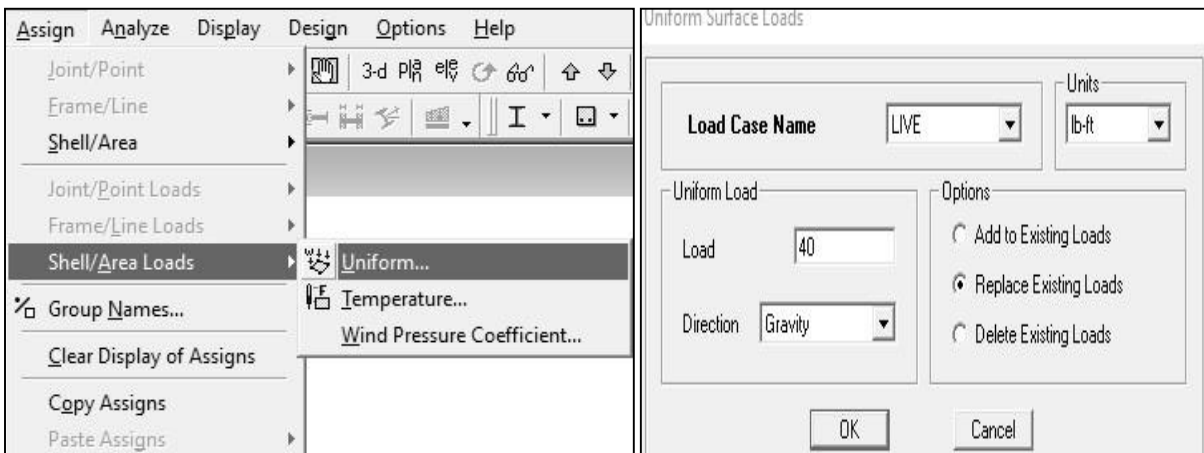

Fig . 4.20
4.2.1 **Floor Load Assign:** Select Slabs → Assign → Shell/Area Loads → Uniform → Load Case Name = Live → Units = lb-ft → Load = 40 → Direction = Gravity → OK. The same procedure follows for other Distributed loads (FF, PW). (Fig: 4.20).